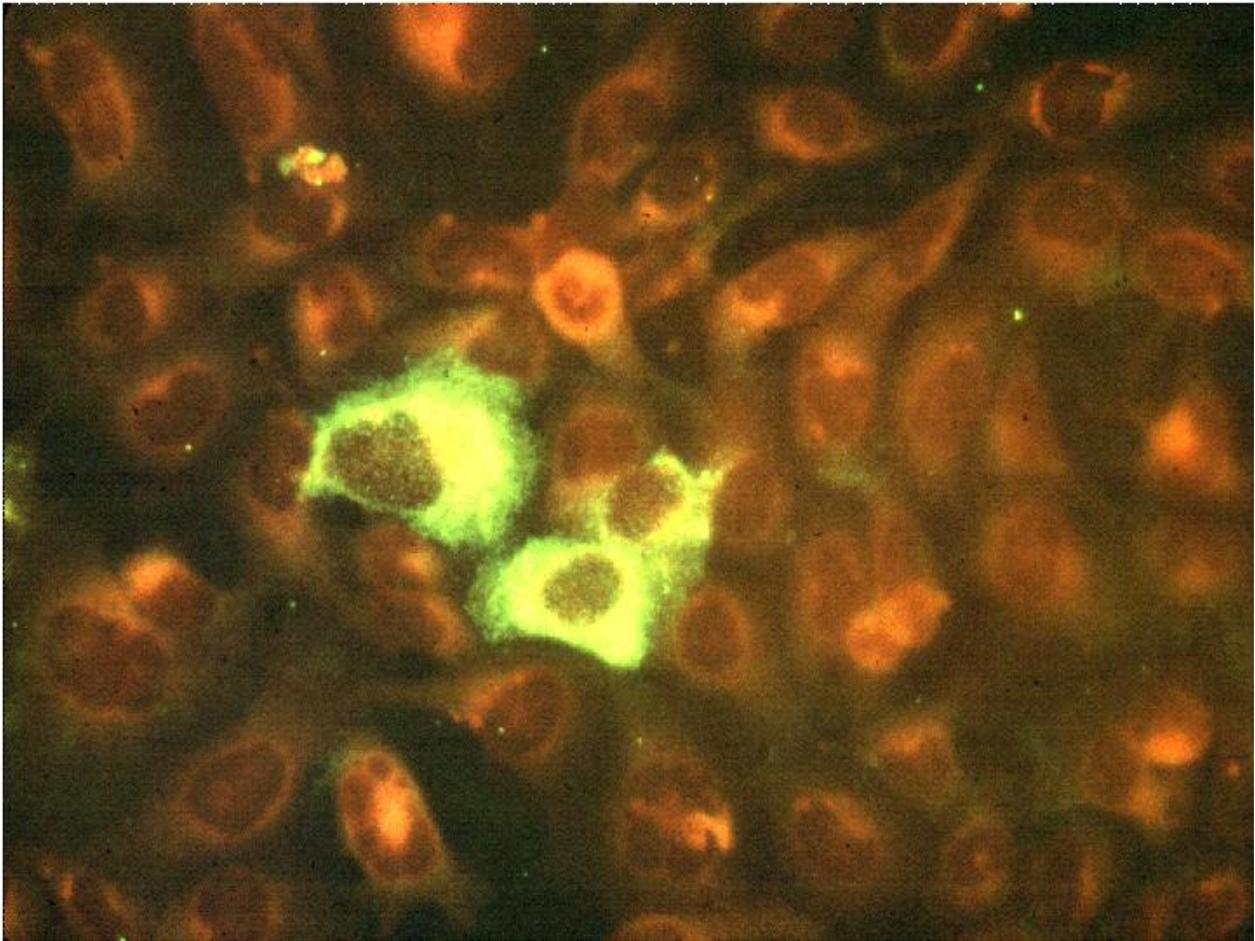

Figure 4.17. Typical fluorescence of positive IFAT for IHNV on EPC cell monolayer. Photo courtesy of Scott LaPatra, Clear Springs Foods, Inc.
1. Positive controls should contain focal clusters of cells exhibiting apple green cytoplasmic fluorescence (see Figure 4.17); no fluorescence should be observed in the negative controls.